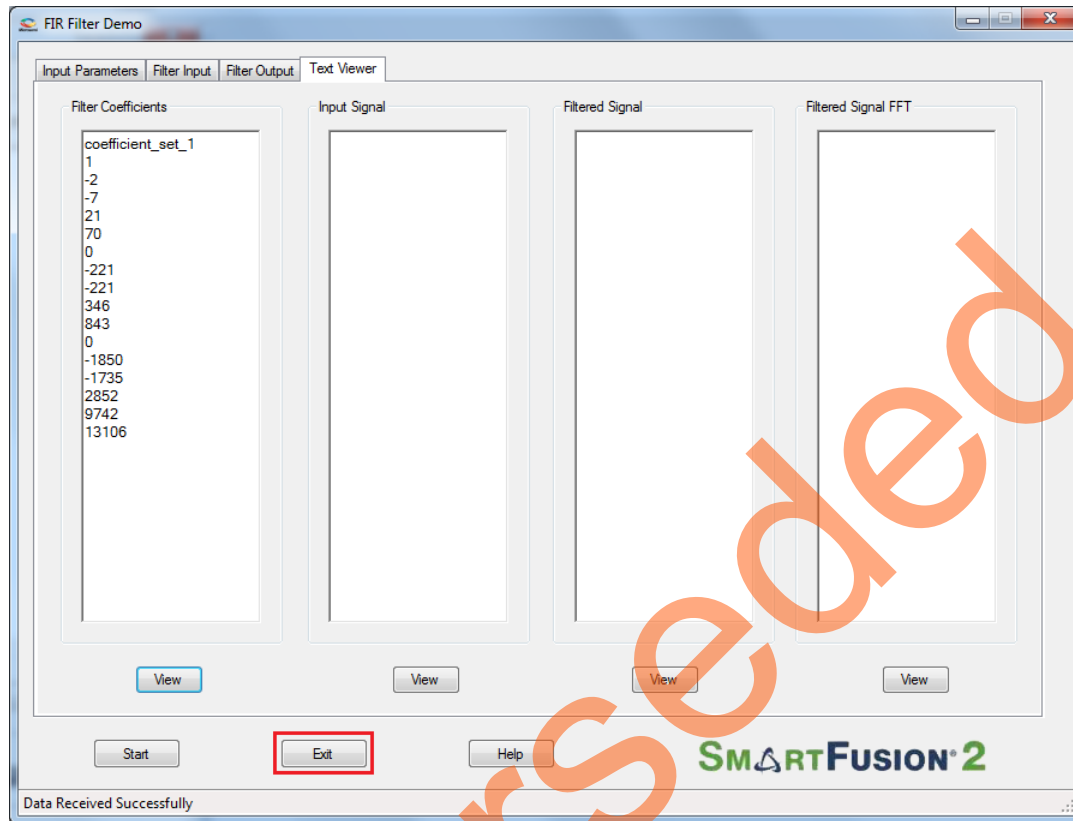

Figure 25 • Exit Demo
9. Click **Exit** to stop the demo. Refer to Figure 25.